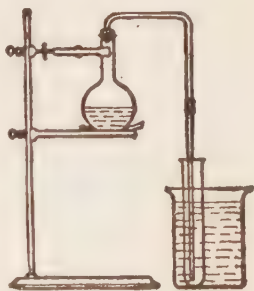

FIG. 16.
b. **Distillation.** Bend a 30 cm. piece of glass tubing twice at right angles (see Fig. 16) and fire-polish the ends. Connect with it, by means of a short piece of rubber tubing, a second glass tube also about 30 cm. long. Set up a flask and a test-tube immersed in cold water in a large beaker as in Fig. 16. Place in the flask about 100 c.c. of water, some marble chips (to prevent “bumping”), and a few drops of potassium permanganate solution. Boil the water and examine the distillate (in the test-tube).